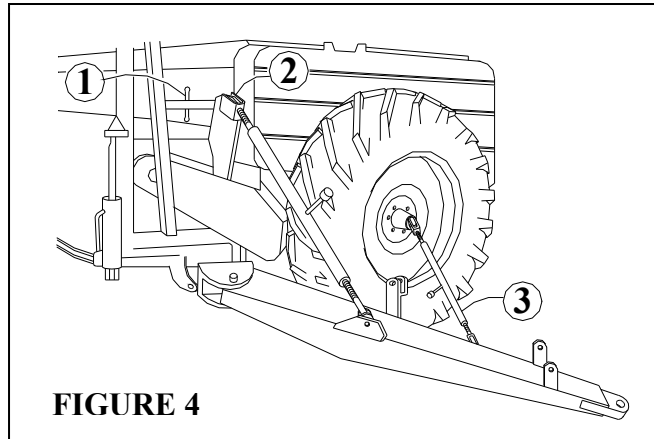

FIGURE 4
- Remove safety bolts from the drive wheels (Fig. 1, Item 3). For ease of operation, check that the strain tensor that secures the tongue to the drive wheel is not tight (Fig. 4, Item 3).
- Remove the strain tensor that secures the drill tongue to the wheel hub (Fig. 4, Item 3).
- Unfold the transport tongue; couple brace or third point (Fig. 4, Item 2) in the upper part, in the same place where the other support brace is (Fig. 4, Item 1). With the threaded end in the third point, reach the tractor coupling height. Couple it.
- Couple the strain tensor that connects the tongue to the wheel hub coupling (Fig. 4, Item 3).